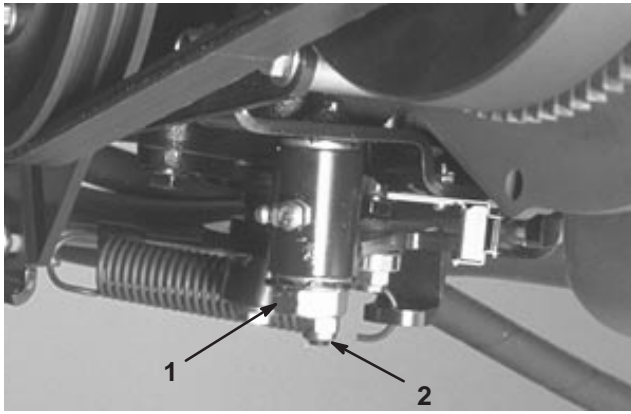

Figure 57
3. Loosen the locknut on the traction adjustment cam (Fig. 57).